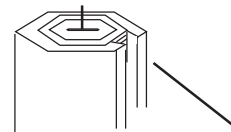

FIGURE 3
2. Pull the cable down until the end of the connector is flush with the hex-shaped end of the cable tool. See Figure 3.